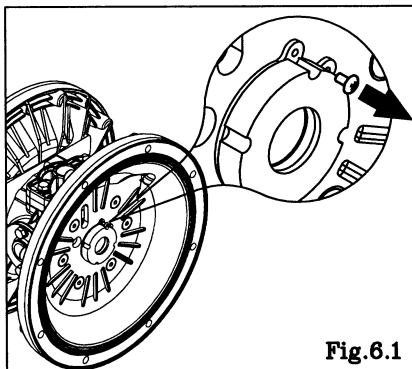

Fig.6.1
- Unscrew the tapping screws with a Phillips-head screw driver. [Fig.6.1]
- Remove the throat bearing using a Guide wrench adapter (804129). [Fig.6.1]